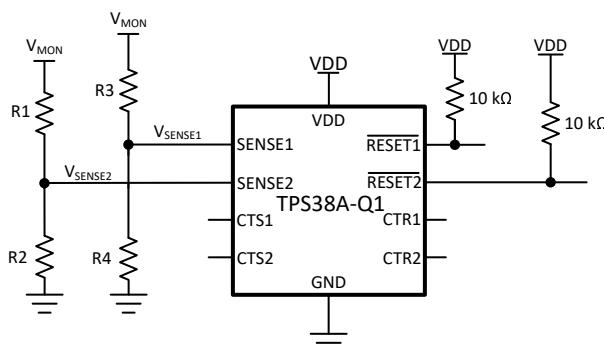

図 8-10. Adjustable Voltage Threshold with External Resistor Dividers
For example, consider a 12 V rail being monitored V_{MON} for undervoltage (UV) using channel 1 of the TPS38A010122DSKRQ1 variant. Using 式 7 and shown in 図 8-10, R_1 is the top resistor of the resistor divider that is between V_{MON} and V_{SENSE2} , R_2 is the bottom resistor that is between V_{SENSE2} and GND, V_{MON} is the voltage rail that is being monitored and V_{SENSE2} is the input threshold voltage. The monitored UV threshold, denoted as V_{MON-} , where the device will assert a reset signal occurs when $V_{SENSE2} = V_{IT-(UV)}$ or, for this example, $V_{MON-} = 10.8V$ which is 90% from 12 V. Using 式 7 and assuming $R_2 = 10k\Omega$, R_1 can be calculated shown in 式 8 where I_{R1} is represented in 式 9: